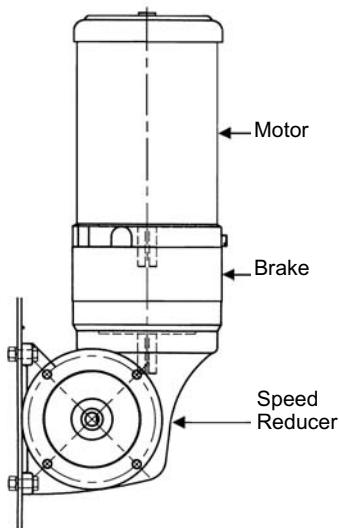

Figure 3 – Brake Mounting – Vertical Below Position
**NOTE:** Brakes may be mounted in all positions. The rotating disc(s) life decreases when mounted in positions other than horizontal. Life could decrease up to 20% depending upon model, loading, and position. The brake drain should be located at the bottom. If the application causes excessive condensation build-up, vertical mounting below the motor is not recommended (See Figure 3).